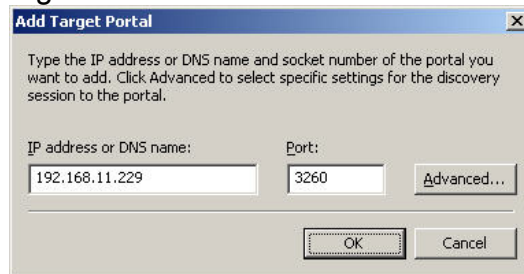

Figure D.2
3. Click **“Add”**. Input IP address or DNS name of iSCSI storage device. Please see Figure D.2.